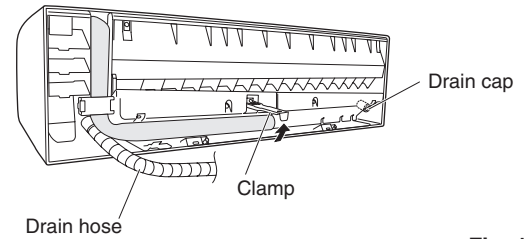

Fig. 1-172
- (a) Locate the drain hose and the drain cap. (Fig. 1-172)
- (b) Remove the screw fastening the drain hose on the right side, and pull out the drain hose to remove it. (Fig. 1-172)